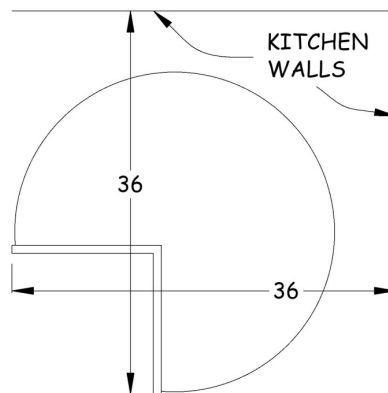

Figure 17-2. Corner Cabinet Installation
4. Set the corner lazy susan unit in place with the faces 36" from each wall (see Figure 17-2).